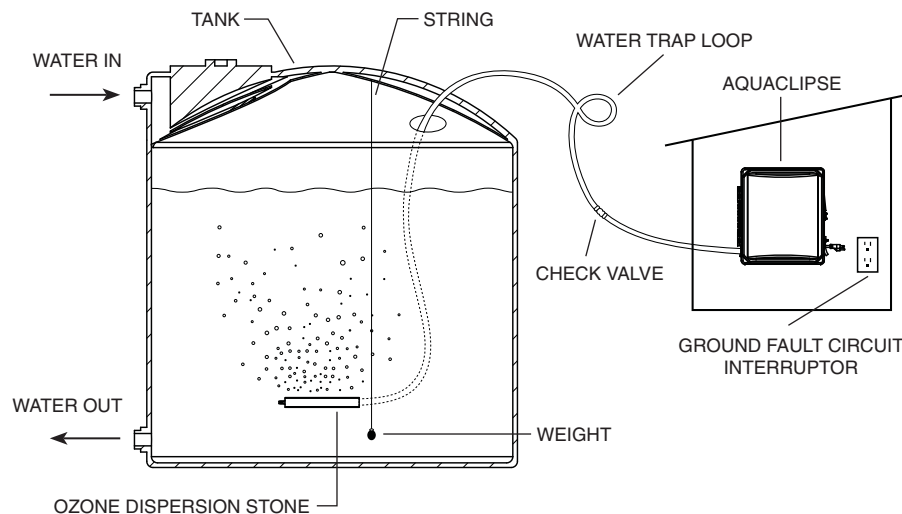

Figure 1: Recommended Installation
Refer to Figure 1 (Next Page)
6. If the generator is mounted below the water line, a water trap loop must be used. To make a water trap loop, simply coil the tubing into a 6" circle, (Figure 1), and fasten it above the water line. The plastic check valve provided should be installed in the ozone supply tubing between the generator and the loop, and secured with tubing clamps. Be sure that the flow arrow on the check valve points toward the tank.
hour of operation (**Figure 1**). Plug in the ZO-400 and turn the main power switch on. Rotate the timer clockwise. When the first depressed tab reaches the pointer in the center of the timer, the ozonator will turn on. The ozonator will turn off again upon reaching the first undepressed tab, or when the main power switch is turned off.
To treat water, place the dispersion stone into the water container as shown in Figure 1 and set the timer to make the unit run for the amount of time desired (recommended 24 hr/day operation). Running the unit less than 24 hours per day may work for your set-up, but running the unit for longer will not hurt the water or the system.